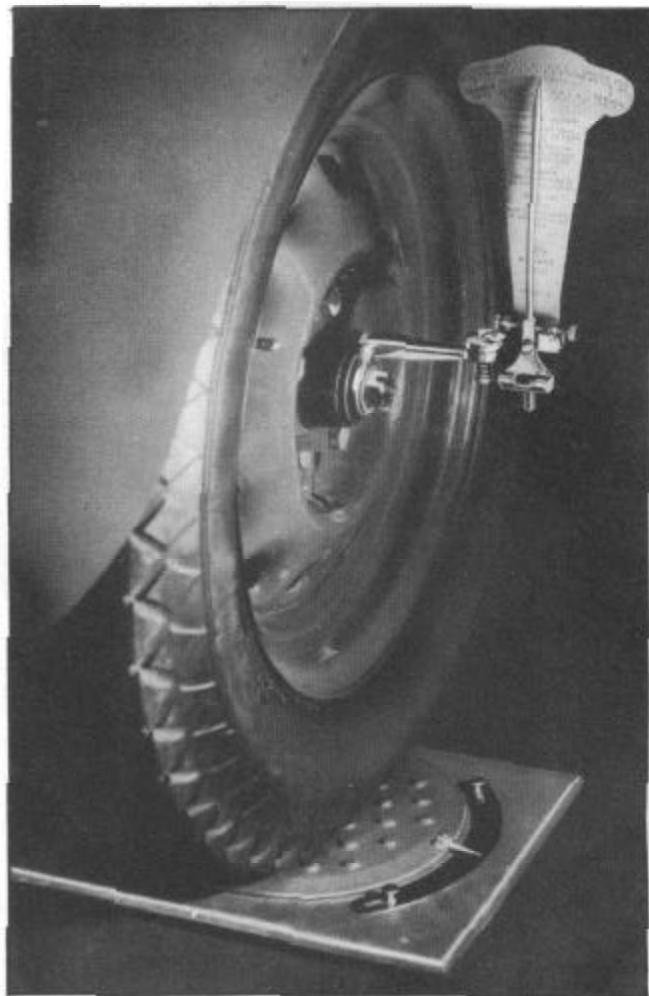

Figure 2--Jiffy Gauge-Checking Camber
See "Camber, Caster, and Steering Pivot Pin Correction" for adjustment and Figure 2 for details of checking camber angle.
Pivot pin inclination can be checked very accurately with tool J 800-A, Figure 2, used along with two full floating turn tables.
4. Turn the head of the jiffy gauge so that it is parallel to the axle as shown in Figure 2 with wheels still straight ahead and adjust the pointer with the thumbscrew until the level bubble is between the lines on the glass. The reading taken on the lower scale is the camber of the left wheel. A reading toward the wheel is positive and away from the wheel is negative camber; the correct camber is  $1/4^\circ$  to  $3/4^\circ$  positive. If camber is insufficient or reversed, check pivot pin inclination as follows:
See "Camber, Caster, and Pivot Pin Inclination Correction" also Figure 2 for details of checking camber angle.